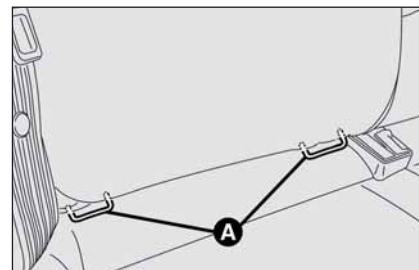
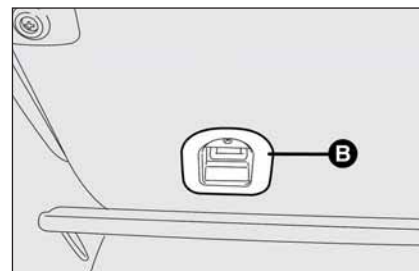

fig. 12
fig. 13
**A-fig. 12**, set between rear seat back and cushion. The upper belt (provided with the child's seat) shall be then secured to ring **B-fig. 13** set on rear seat backrest.